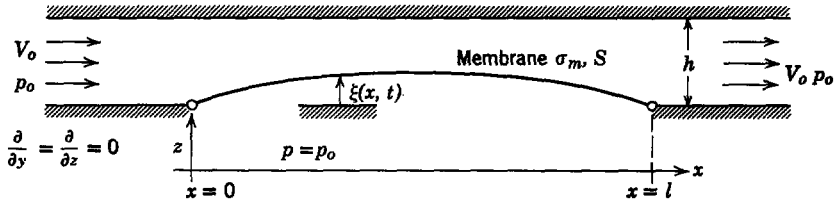

Fig. 12P.11
12.11. An inviscid incompressible fluid enters the channel shown in Fig. 12P.11, with the velocity V_0 and pressure p_0 . One wall of the channel includes a section of length l composed of a taut membrane with the deflection ξ .